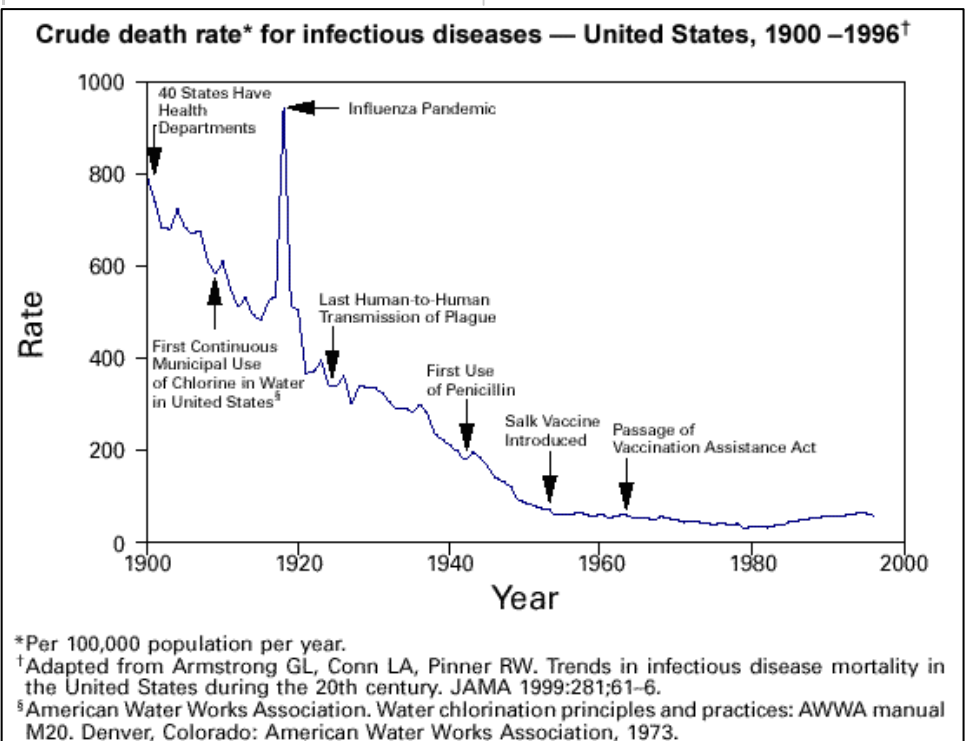

FIGURE 1
surface waters for their basic supply. Studies examining methods for disinfecting water showed the efficacy of chlorine in reducing microbial levels. With the development of a means to safely apply chlorine at the water plant, engineers began to include chlorine as a disinfectant in water supplies beginning in 1908 (AWWA 1990). With the establishment of these two processes, a remarkable reduction in various waterborne diseases was noted. Although other improvements in sanitation and medical treatment also contributed to this reduction, a significant portion of the seventy-five (75) percent decline in the crude death rate for infectious disease from 1900 to 1940 can be attributed to these changes in water treatment (Armstrong et al. 1999). This is demonstrated graphically in Figure 1.